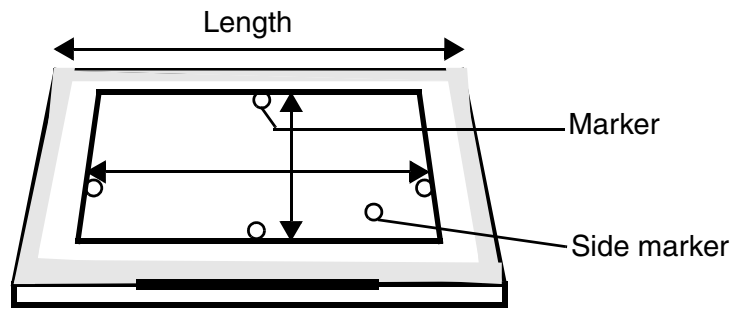

Fig. 16
- Apply radiopaque markers (e.g. washers, coins) as shown in Fig. 16. Use one washer as a side marker.